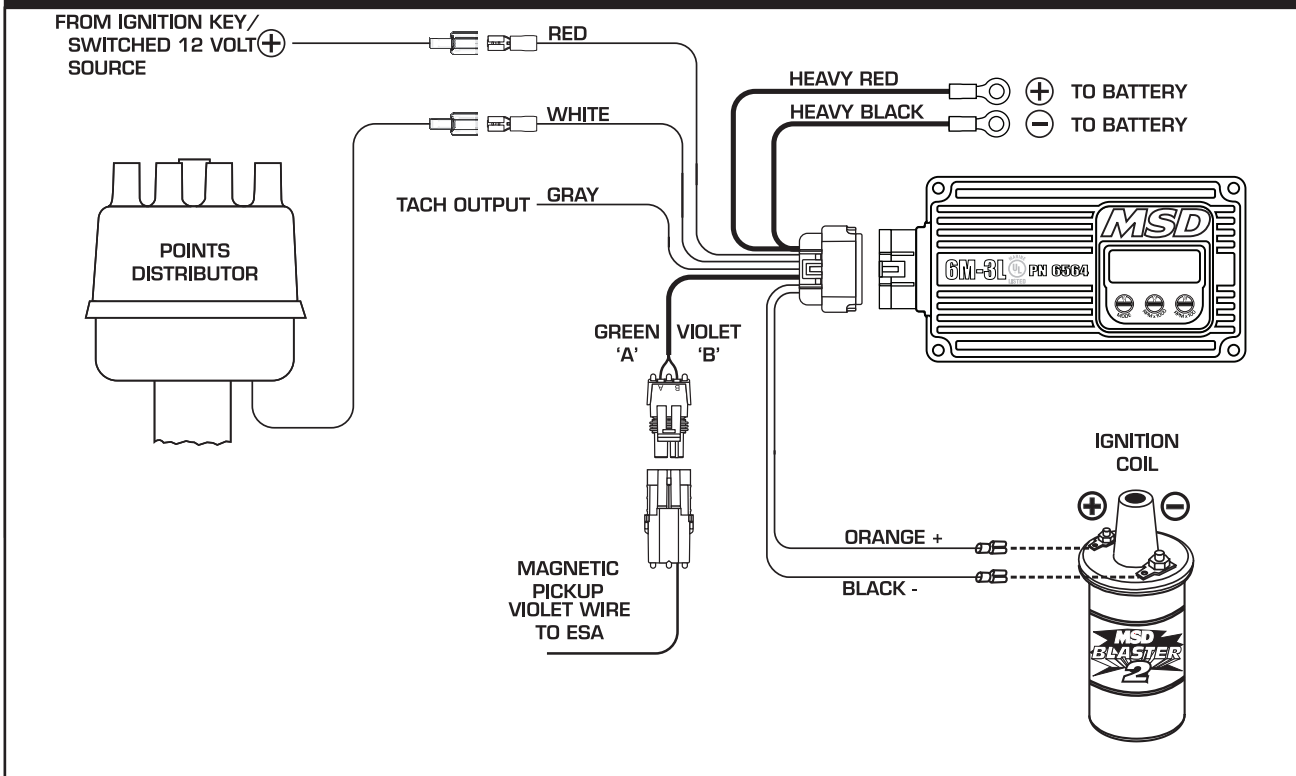

**Figure 8 Checking for Spark with the Mag Pickup.**
5. With a small jumper wire, short the MSD's Green and Violet magnetic pickup wires together several times (See Figure 8). Each time you break this short, a spark should jump from the coil wire to ground. If spark is present, the ignition is working properly. If there is no spark skip to step 6.